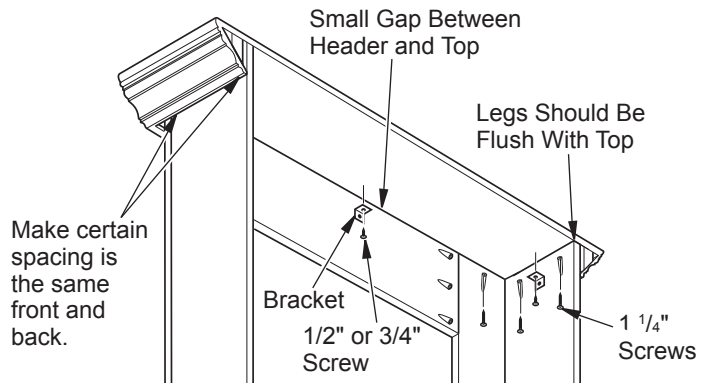

Figure 8 - Attaching Mantel Top to Leg and Header Assembly
3. Attach supplemental brackets using 1/2" or 3/4" screws provided in bracket hardware kit. Use 3 brackets to attach top to mantel assembly - one at back of each leg assembly and one at center of header (see Figure 8).
2. Make sure mantel is centered left to right inside top and rear of legs are flush with back of top. Gap between mantel top and leg should be the same from front to back (see Figure 8). Use 1 1/4" screws through pocket holes in the side assemblies and the front to attach top of mantel.